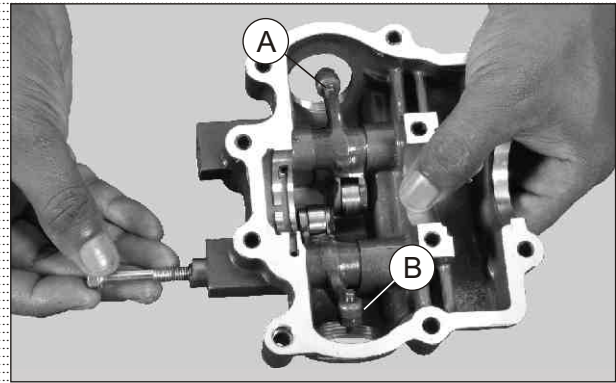

Fig. 3.121
- Thread in M6 bolt into shaft rocker arm and gently pull out both the shaft valve rocker arm from the cover cylinder head. (Fig. 3.121)
- Remove arm valve rocker complete (A). (Fig. 3.121)
- Similarly remove other arm valve rocker complete (B) (Fig. 3.121).